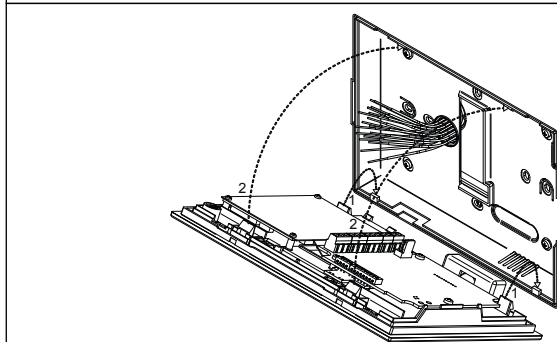

Fig. 6
4. Connect the wires using a flat screw driver then setup the dip-switches as per provided connection diagram or instruction sheet and fix the front part of the videophone to the back cover as shown in **Fig. 6**: hook first the bottom side then rotate the front part and hook the upper side;